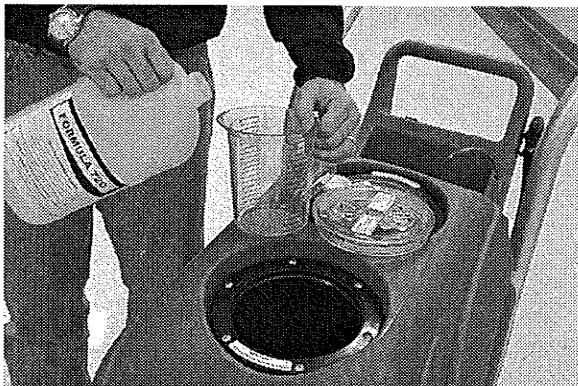

FIG. 4
1. Remove front solution tank lid from machine. Add Formula 720 Rinse or approved substitute to the tank as per dilution instructions on bottle (Figure 4).